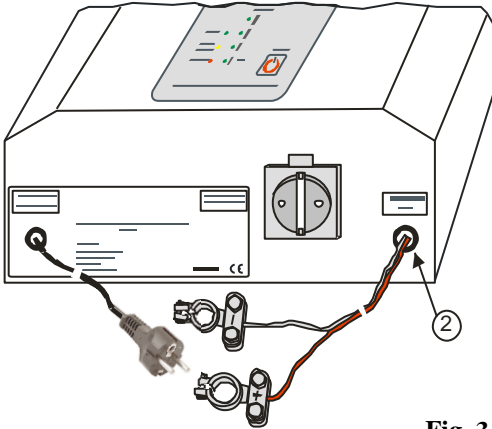

Fig. 3
4. If the device is to work with an external battery, the cable compartment cover is to be removed according Fig. 3.